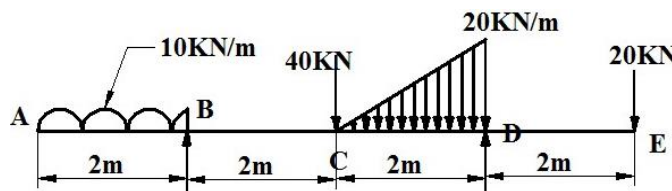

Figure 23
13. Draw shear force and bending moment diagram for overhanging beam as show in *Figure 23* and locate the point of contra flexure.